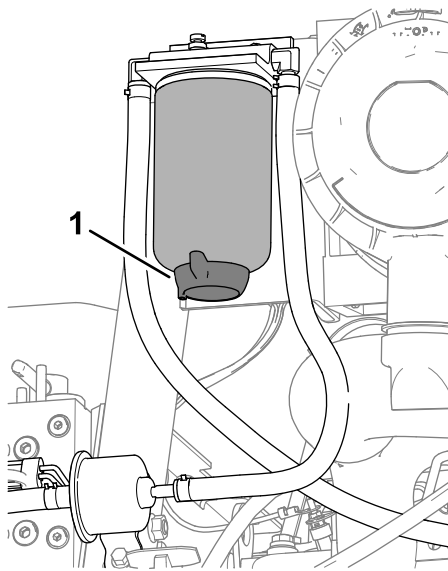

Figure 82
3. Place a drain pan under the fuel-water separator filter (Figure 82).